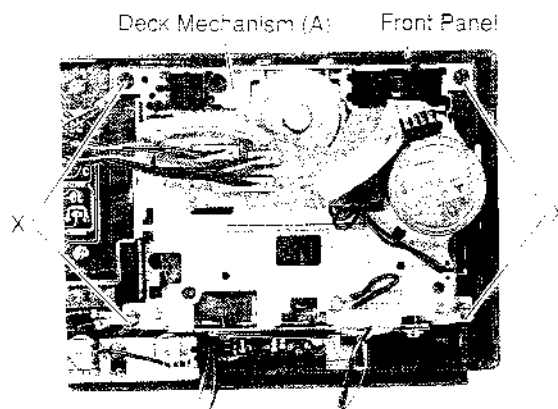
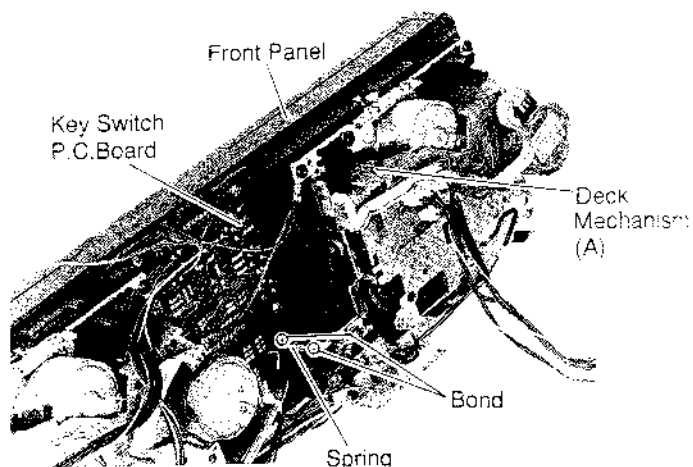

Figure 2
Figure 3
- (1) After removal of the Front Panel, remove a Spring as shown in Figure 3.
- Note: When the Eject Switch lever is pressed, the Spring removed in 2-(1) is released and the Eject Switch Spring, apply bond to each end of the Spring.
- (2) Remove four screws marked "X" as shown in Figure 2.